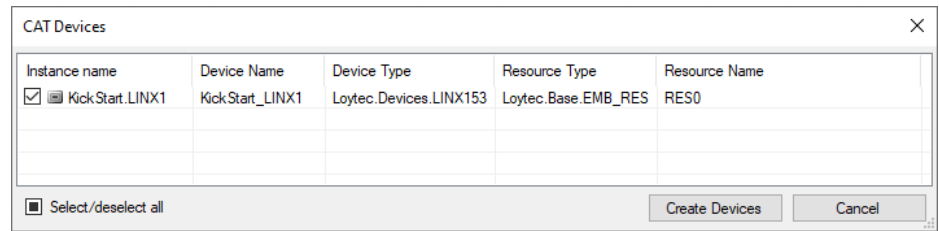

Figure 54: Select devices to be created.
21. In the list, select all devices that apply and click **Create Devices** (see Figure 54).